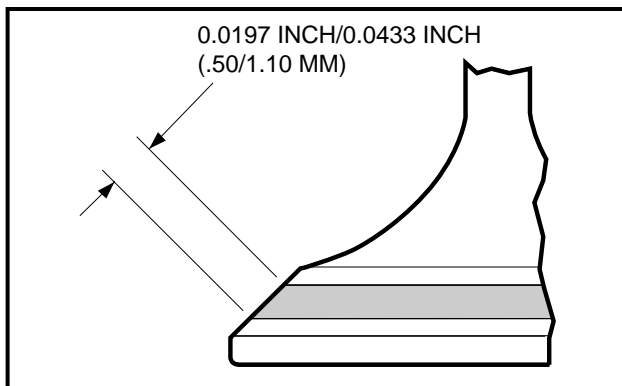

Figure 13-24 Check Mark on Valve Head
5. Pull the valve out, and check the mark on the valve head. It must be 0.0197 - 0.0433 inch (.50 - 1.10 mm) in width, and even all the way around the seat and valve (**Figure 13-24, Page 13-15**).